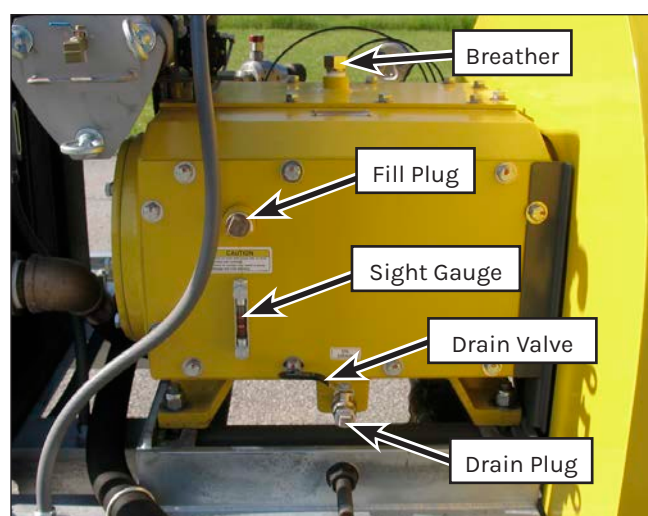

Figure 134: Oil Check and Change.
1. Locate the sight gauge (Figure 134) on the back of the power end case. With the pump off (for 5 to 8 hours), the oil should be at the Full level.